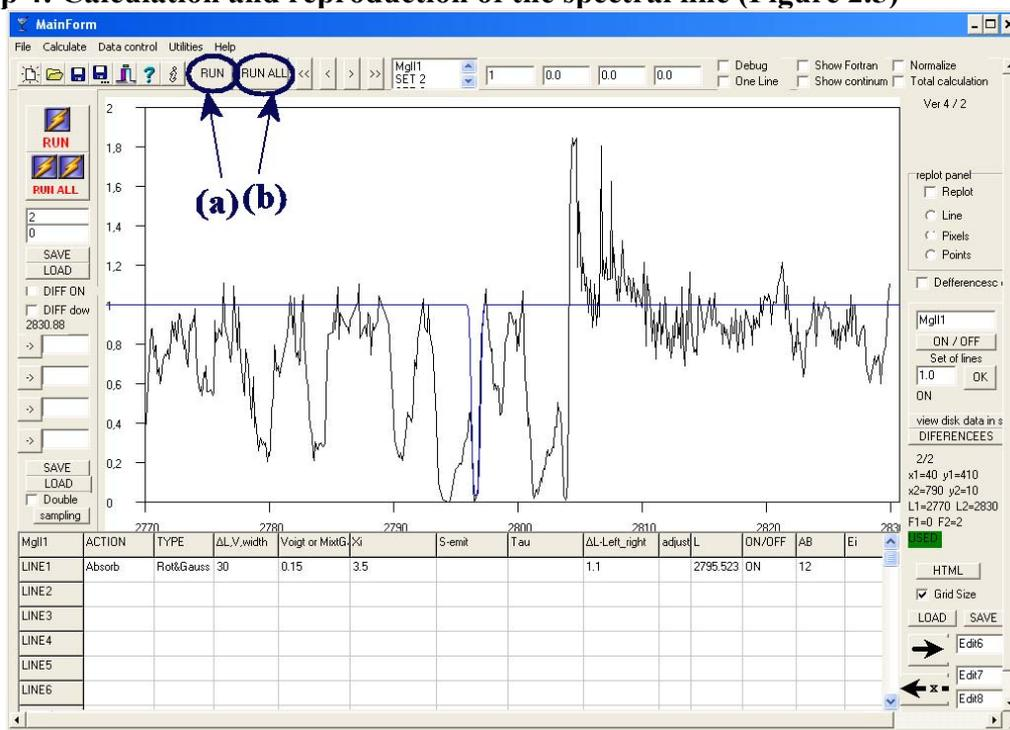

Figure 2.5
Step 4: Calculation and reproduction of the spectral line (Figure 2.5)
(b) In the case of more than one spectral lines (i.e. when more than one sets from **SET1**, **SET2**, ... are active) click on the **RUN ALL**, so that the program makes the necessary calculations for the reproduction of the spectral lines. In the case of more than one spectral lines (more than one active sets) by clicking on the button **RUN** the program calculates only the spectral line of the current SET. By clicking on the buttons **RUN** and **RUN ALL** the theoretical profile (blue line in Figure 2.5) of the spectral line appears. This theoretical profile is the result of the calculations of the program (fit).